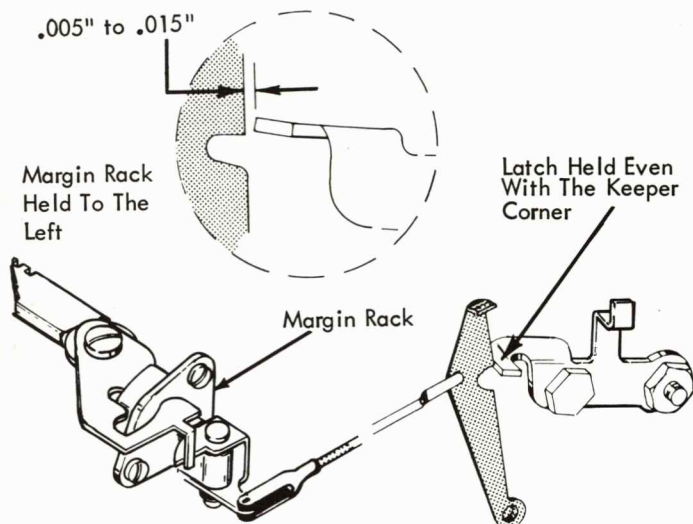

FIGURE 148. Clutch Unlatching Adjustment
5. Clutch Unlatching - With either style margin rack held to its extreme left position, the carrier return latch keeper should clear the latch by .005" to .015" at the unlatching point (Fig. 148). Check by manually holding the latch at the unlatching point while the machine is idling. Lengthen or shorten the carrier return unlatching link to obtain this clearance.